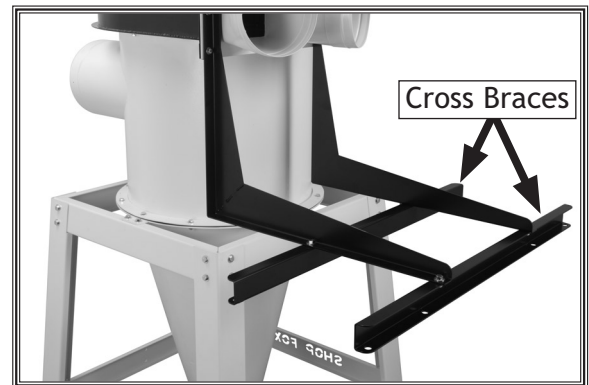

Figure 25. Filter cross braces (Model W1810).
15. Model W1810 Only: Attach the filter cross braces to the L-braces, as shown in **Figure 25**, using (4) $\frac{3}{8}$ "-16 x $\frac{3}{4}$ " hex bolts, (8) $\frac{3}{8}$ " flat washers, and (4) $\frac{3}{8}$ "-16 hex nuts.